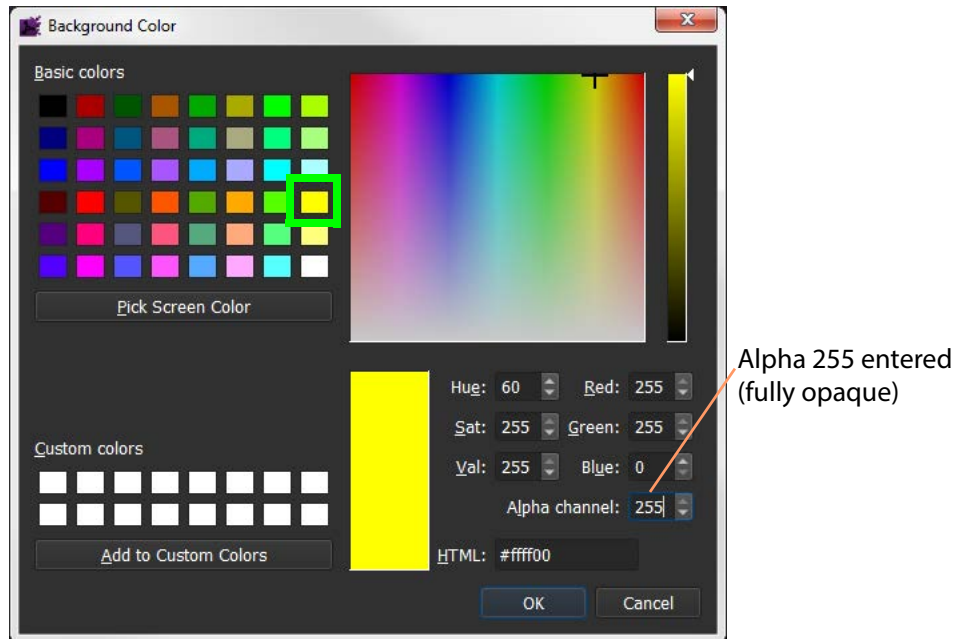

Fig. 8-13: Color Picked
- 5 Click on the  icon to show the **Background Color** dialog. See Figure 8-13 on page 262.